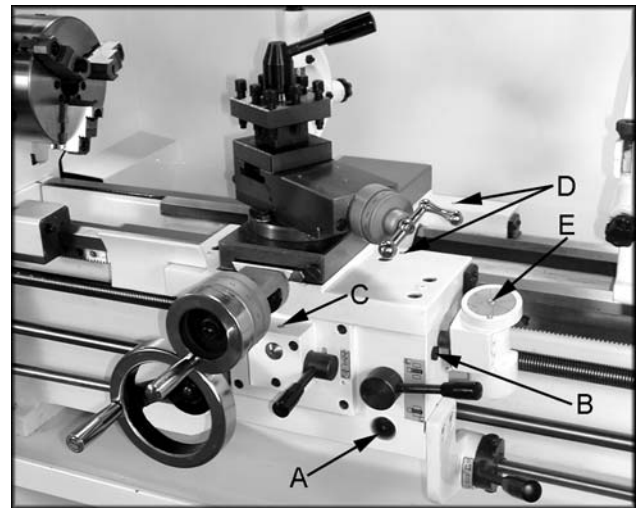

Fig. 5
5. **Apron** - Oil must be up to indicator mark in oil sight glass (A, Fig. 5). Top off with Mobil DTE® Oil Heavy Medium. Fill by removing oil plug (B, Fig. 5). After the first three months of operation, drain oil completely (drain is on the bottom of the apron) and refill with Mobil DTE® Oil Heavy Medium, or equivalent to the indicator line. Then, change oil annually.
6. **Feed Selector** - Lubricate ball oiler (C, Fig. 5) once daily with Mobil DTE® Oil Heavy Medium.
7. **Carriage** - Lubricate two ball oilers (D, Fig. 5) once daily with Mobil DTE® Oil Heavy Medium.
8. **Thread Dial Indicator** - Lubricate ball oiler (E, Fig. 5) once daily with Mobil DTE® Oil Heavy Medium.